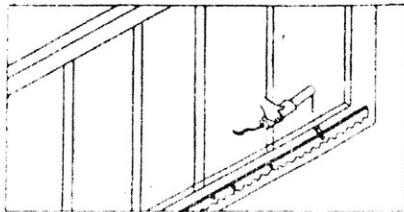

Fig 4
- * Fix the three nuts (in the same package with rack) on the rack element.(Fig. 4)